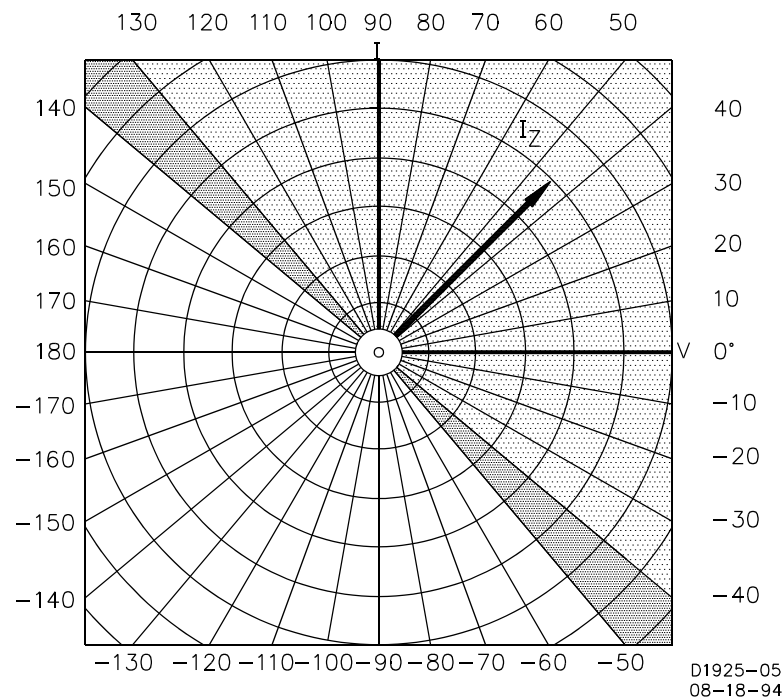

Figure 5-9.  $\alpha = 45^\circ$
- Step 7. Vary the phase angle of the input current through  $360^\circ$  and record the phase angles within which the INHIBIT LED is OFF. When shown on a polar plot, the result should be a straight line (through the origin) from  $-45^\circ$  to  $+135^\circ \pm 5^\circ$ . This plot defines the trip region as shown in Figure 5-9.